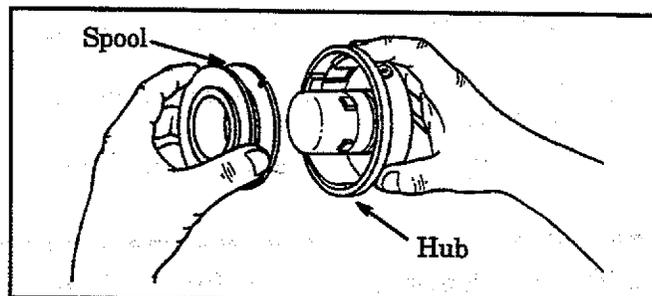

Figure 17
- b. Remove the Spool. Figure 17 .